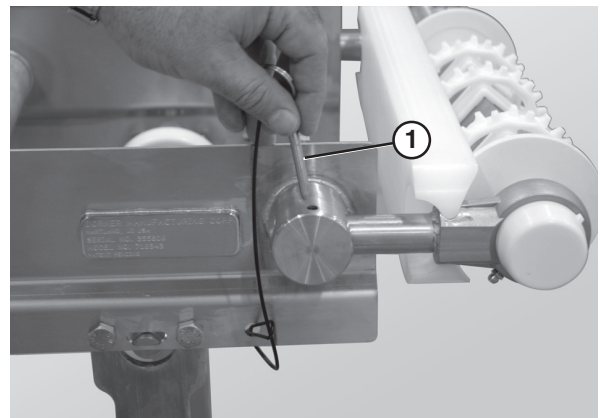

Figure 63
5. Remove the pull pin (**Figure 63, item 1**).
1. Remove the pull pins (**Figure 63, item 1**).